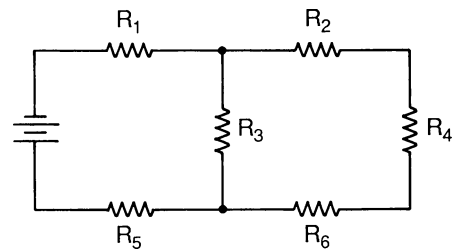

Fig. P-2
6. Find the correct values from Fig. P-2 and place them in the following table: